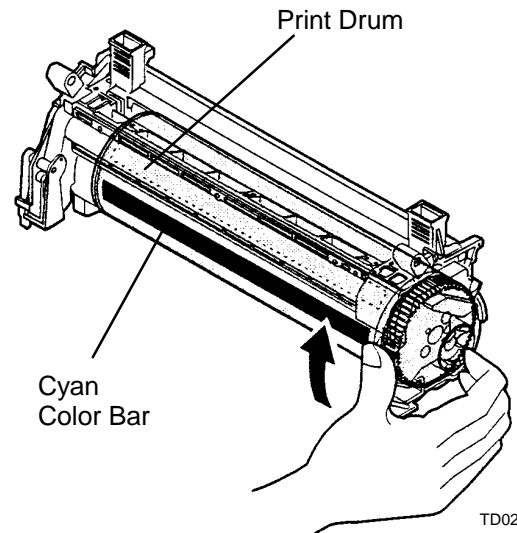

Figure 1. Rotating the Print Drum
3. (Figure 1): Rotate the Print Drum up until there is a Cyan color bar in the position shown.